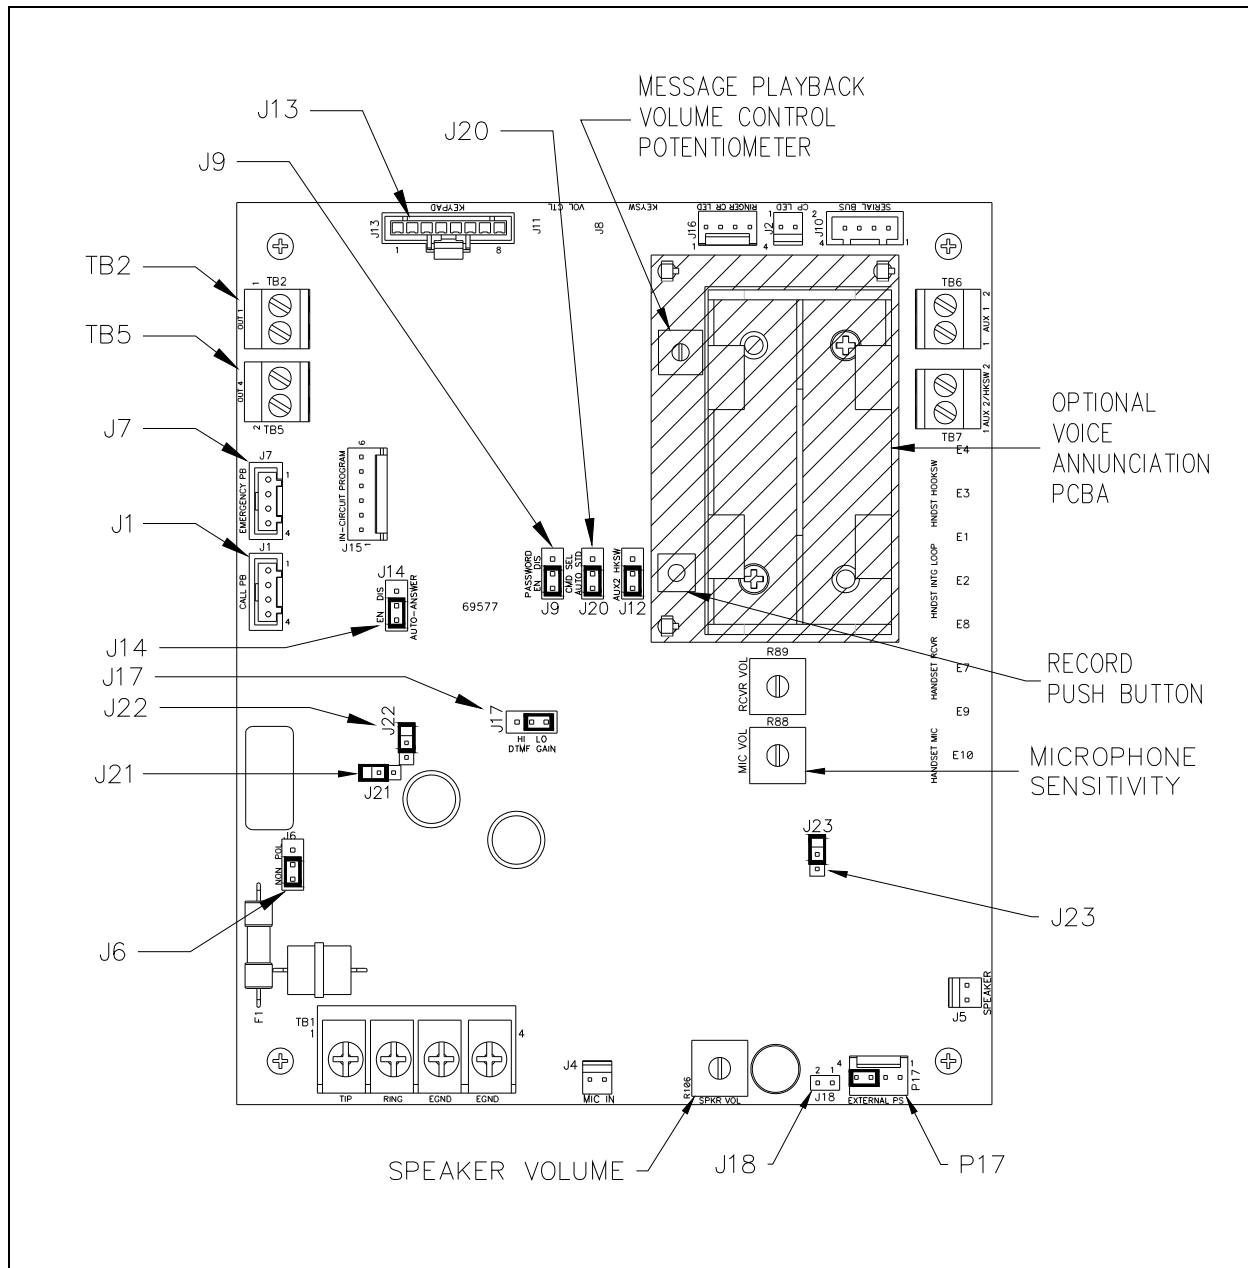

Figure 32. No. 69577-101 Emergency Telephone PCBA (Top View)
- Adjust the audio levels if necessary. Refer to Figure 32 for “Speaker Volume” and “Microphone Sensitivity” potentiometer locations.
The Plug-in Power Supply is used for operations below  $-4^{\circ}\text{F}$  ( $-20^{\circ}\text{C}$ ) and requires 120 V ac input to provide a 5 V dc output to the unit. The Plug-in Power Supply is provided with a 4-foot power cable with integral connector that plugs into P17 on the telephone PCBA. Remove the existing jumper from P17 pins 3 and 4 and install it onto the adjacent header J18 when using the plug-in power supply. See Figure 32 on Page 29 for jumper locations.
The hardware configuration options are explained in detail in the following sections and the necessary jumper settings are identified to enable or disable each option. Reading each section and recording the selected options prior to making the necessary changes is recommended. Create a record of your settings using Table 3 on Page 28. See Figure 32 on Page 29 for the jumper locations.
Each telephone includes two isolated solid state switches capable of switching a maximum of 125 mA at 48 V dc or 80 mA at 28 V ac. TB2 (OUT1) and TB5 (OUT4) on the emergency telephone PCBA provide the connections for the auxiliary outputs. Refer to Figure 32 for the location of TB2 and TB5.
Each telephone is shipped with a plug-in power supply that requires a 120 V ac input to provide a 5 V dc output to the unit. The power supply is equipped with a 4-foot power cable with integral connector, which plugs into P17 on the telephone PCBA. P17 must be vacated prior to plugging in the power supply. To do so, remove the jumper from P17 pins 3 and 4 and plug it into the adjacent J18 header. Refer to Figure 32 for the connector locations.
Refer to Figure 32.
Output one connects to TB2 on the telephone’s PCBA (refer to Figure 32). This output closes when an emergency call begins (HELP push button activation only) and remains in that state for the duration of the telephone call. The typical use of this output is to activate the flashing sequence on a GAI-Tronics Strobe.
1. RED ALERT® Telephones that do not include an integral keypad will require the use of a No. 51035-011 Keypad and No. 61504-048 Keypad Cable Assembly. The keypad and cable must be connected to J13 on the PCBA. Refer to Figure 32 for the location of J13.